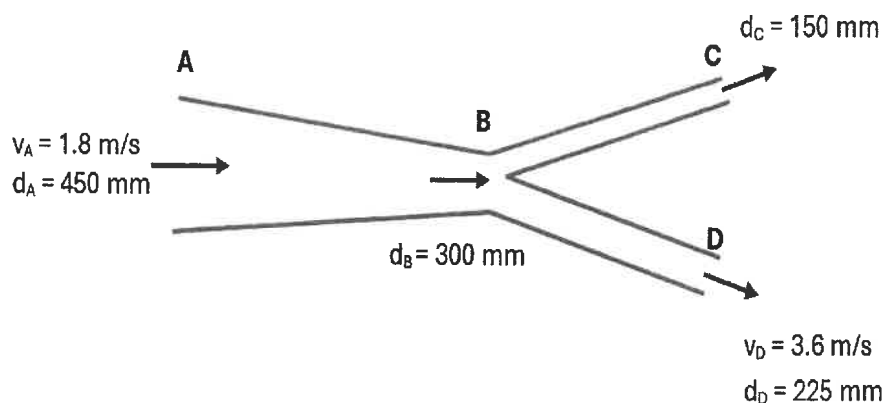

Figure 3.1: Branches Pipe
- (b) Oil flows through a pipe line which contracts from 450 mm diameter at A to 300 mm diameter at B and then forks, one branch being 150 mm diameter discharging at C and the other branch 225 mm diameter discharging at D as illustrated in Figure 3.1 below. If the velocity at A is 1.8 m/s and the velocity at D is 3.6 m/s, **determine**: